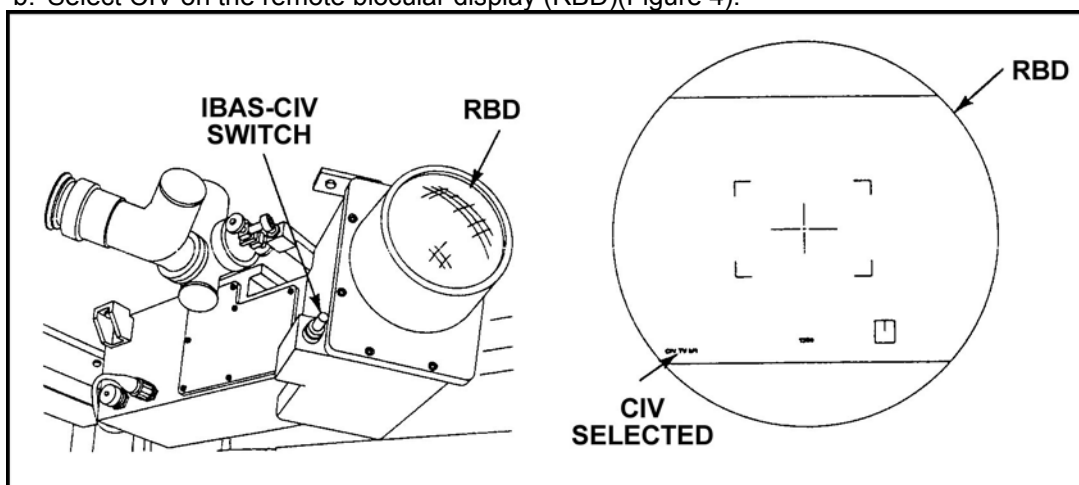

Figure 4. Remote biocular display.
- (3) Ensure the UNSTOW indicator light is lit.
(4) Release the palm switches.
b. Select CIV on the remote biocular display (RBD)(Figure 4).